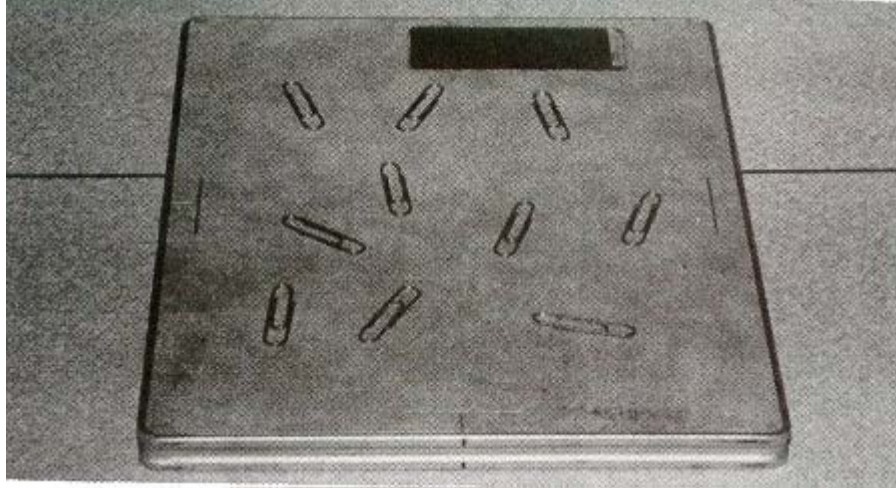

Figure 9-4. Cassette being tested with paper clips.
- NOTE:** If using paper clips, place the paper clips on the cassette front surface, evenly distributed (see figure 9-4).